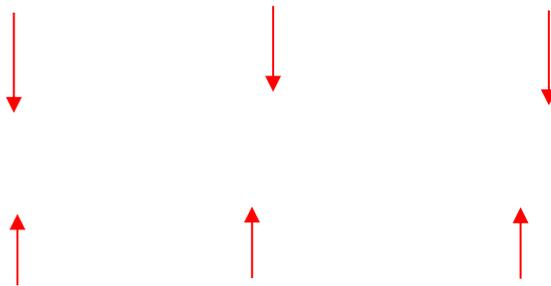

Fig 7.3
- Least Squares Approximation (LSA) Splice loss method gives the user a visual aid in setting splice loss areas. The splice loss lines must be set to overlay the backscatter of a trace without over lapping any other events. The LSA areas are set properly when the LSA visualization lines overlay the back-scatter sections of the trace before and after the event. This method can be more accurate by affording the ability to see the slope of the splice loss areas, however: it can also supply a reading with greater error if not used properly. Please see Fig 7.3, 7.4 and 7.5 for examples of LSA settings. In Noisy environments the LSA Lines will have an exaggerated movement making the Basic Splice Loss Measurement potentially more accurate.